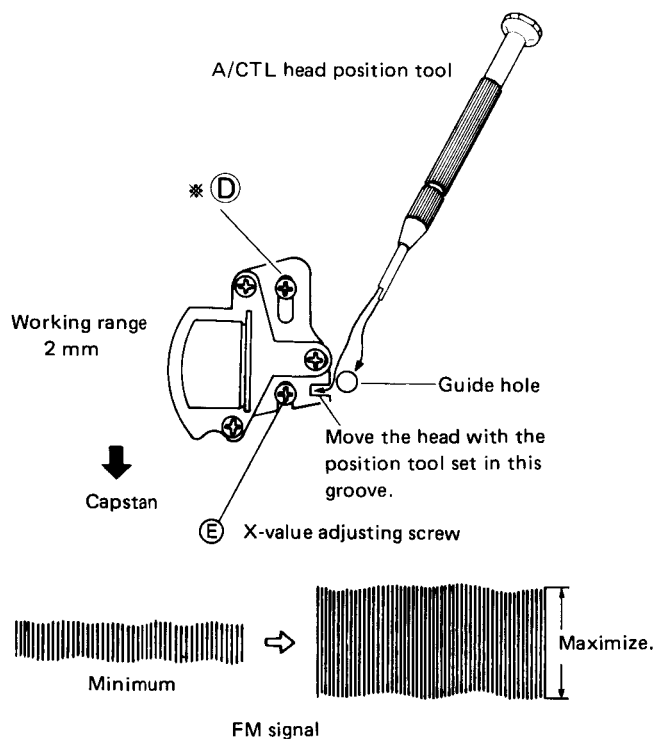

Fig. 2-7-6 X-value adjustment
3. Slightly loosen screws **(D)** and **(E)** of the A/CTL head and set the tip of the A/CTL head positioning jig in the groove and guide hole respectively. Then, pull the A/CTL head fully in the direction of the capstan. (See Fig. 2-7-6.)